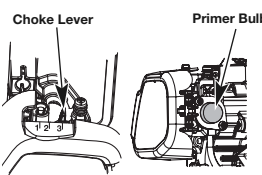

Fig. 8
- Slowly press and release the primer bulb **10 times** (Fig. 8). If fuel cannot be seen in the primer bulb, press and release the primer bulb until fuel is visible.
- Move the choke lever to **Position 1** (Fig. 8).
- Continue to squeeze the throttle control. Move the choke lever to **Position 2** (Fig. 8).
- Continue to squeeze the throttle control. Move the choke lever to **Position 3** (Fig. 8) and continue warming the engine for an additional 60 seconds. The unit may be used during this time.
**IF...** the engine hesitates, return the choke lever to **Position 2** (Fig. 8) and continue the warm-up.